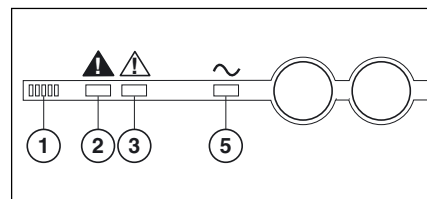

**Fig. 26**
Located in the upper left part of the cubicle front, the visible panel is designed to provide an easy and rapid overview of system status (see figures 26 and 27).
**Legend for figure 26:**